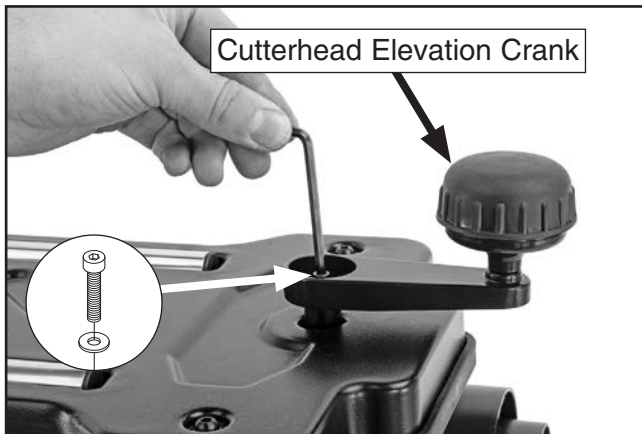

Figure 10. Installing cutterhead elevation crank.
1. Remove plastic cap from cutterhead elevation crank, then place crank on elevation shaft (see **Figure 10**). Secure crank with M5-.8 x 25 cap screw and 5mm flat washer. Do not over-tighten.